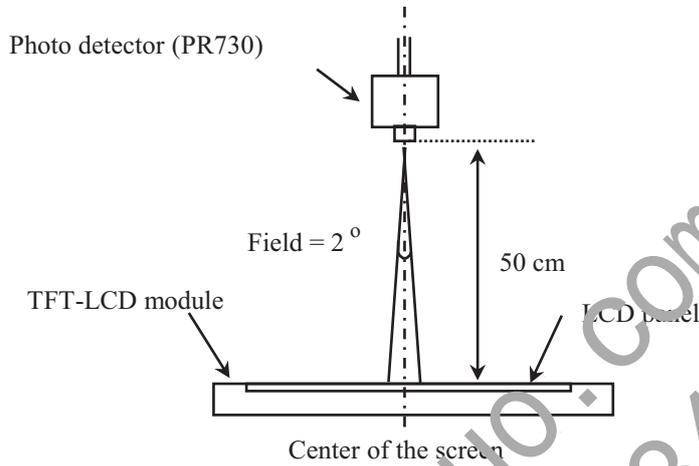

Figure 7. Measurement Set Up
- Viewing angle is the angle at which the contrast ratio is greater than 10. The viewing angles are determined for the horizontal or 3, 9 o'clock direction and the vertical or 6, 12 o'clock direction with respect to the optical axis which is normal to the LCD surface (see Figure 7).
- Contrast measurements shall be made at viewing angle of  $\Theta = 0$  and at the center of the LCD surface. Luminance shall be measured with all pixels in the view field set first to white, then to the dark (black) state . (see Figure 7) Luminance Contrast Ratio (CR) is defined mathematically.
Center Luminance of white is defined as luminance values of center 5 points across the LCD surface. Luminance shall be measured with all pixels in the view field set first to white. This measurement shall be taken at the locations shown in Figure 7 for a total of the measurements per display.